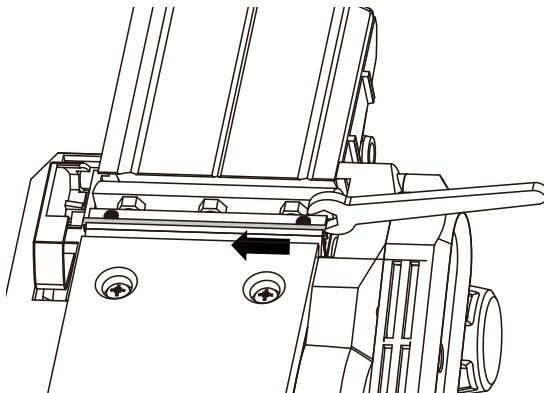

Figure 9-2
3) Press the safety cover down. Push the blade out with the tip of a spanner (or a screwdriver) and then remove (see Fig. 9-2).